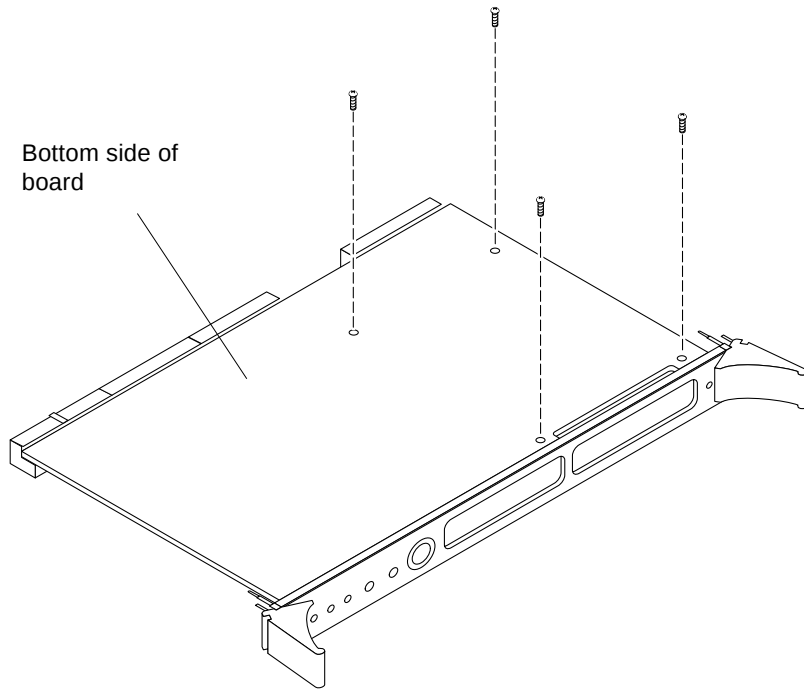

FIGURE 2-7 Securing the PMC Screws
- 9. Turn the Netra CP2300 board over and use a screwdriver to secure the four screws that attach the PMC to the Netra CP2300 board (FIGURE 2-7).**